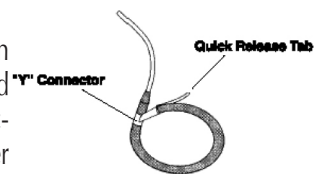

Fig. 5-1A
2. With one hand, grasp the loop at the "Y" connector. (See Figure 5-1A)